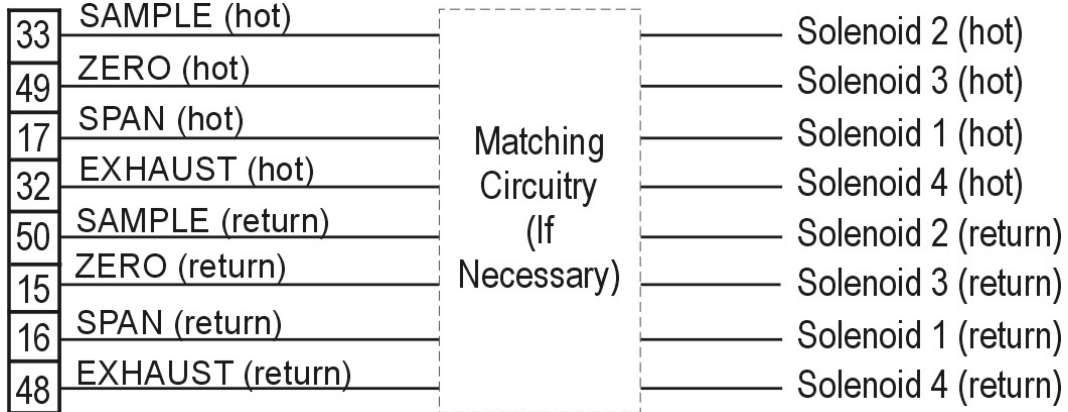

Figure 3-5: Remote Probe Connections
**Span:** Floating input. 5 to 24 V input across the + and – pins puts the analyzer into the *Span* mode. Either side may be grounded at the source of the signal. 0 to 1 volt across the terminals allows *Span* mode to terminate when done. A synchronous signal must open and close external span valve appropriately. See Figure 3-5 Remote Probe Connector. (The –C option internal valves operate automatically.)
The 3000TA-XL-EU is a single-chassis instrument, which has no Remote Valve Unit. Instead, the Remote Valve connections are used as a method for directly controlling external sample/zero/span gas valves. See Figure 3-5.